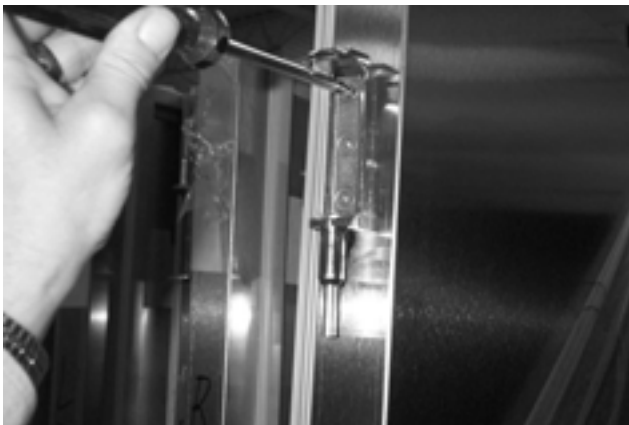

Figure 4-48
4. Remove the (3) three hinged mounting screws from each flange on the door (Figure 4-48) and replace hinge.